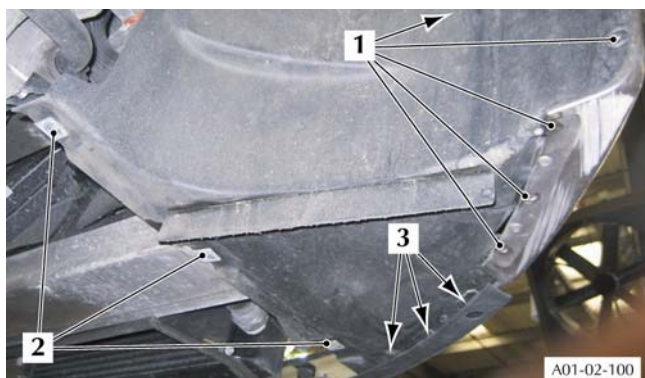

Figure 1 - Front Wheelarch Liner Attachment (Right side shown)
5. Move the valance away to get access to the wheelarch liner attachment screws (refer to Figure 1).